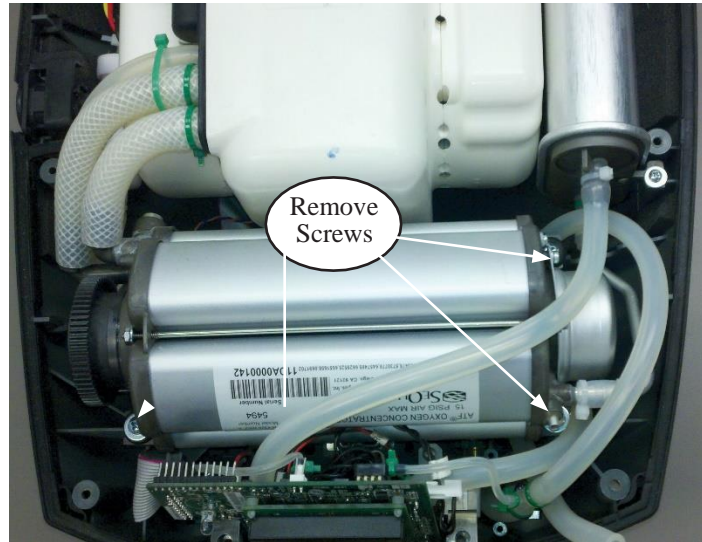

Figure 33: Remove ATF Module from Eclipse 5 Case.
- Mount the ATF with 3 M4x16 screws and 3 washers as shown on Figure 33 on previous page. Apply Loctite® 425 Thread Locker on the threaded tips of the screws before installing. Tighten screws but **DO NOT** squash the grommets (2 in.lbs. maximum).